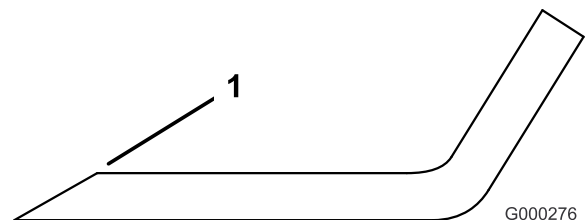

Figure 29
- Examine the cutting edges of all blades. Sharpen the cutting edges if they are dull or nicked. Sharpen only the top side of the cutting edge and maintain the original cutting angle to ensure sharpness (Figure 29). The blade will remain balanced if the same amount of metal is removed from both cutting edges.